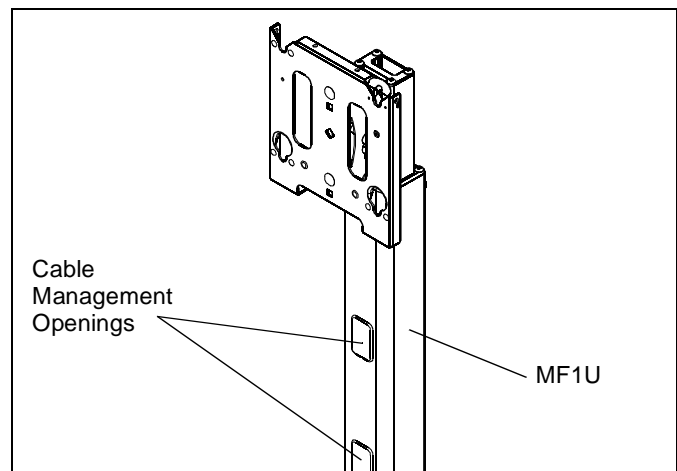

Figure 5
4. Shelf should be located directly above or directly below a cable management opening in the post. (See Figure 5)